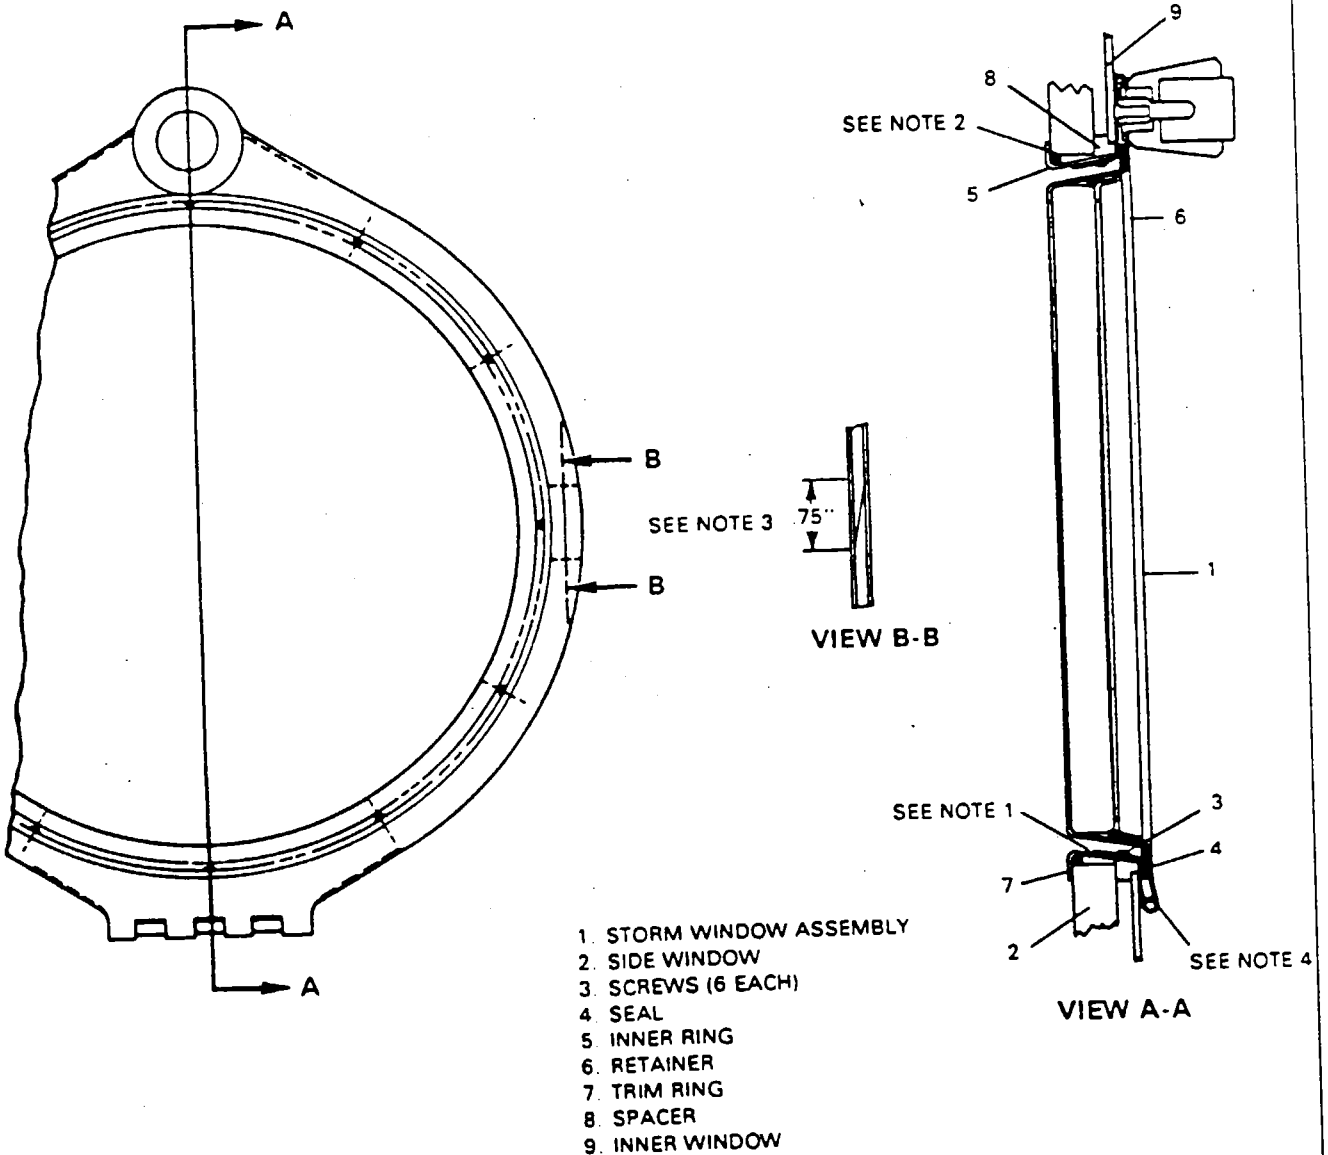

Figure 56-3. Storm Window Installation
1. Position spacer (Piper P / N 51225) as shown in Figure 56-3. It is permissible to use EC-1357 cement as an aid in securing the gasket to the window prior to installation.
2. Apply sealant (MIL-S-7502B) to the trim ring as shown in Figure 56-3, and position the trim ring in the storm window opening.